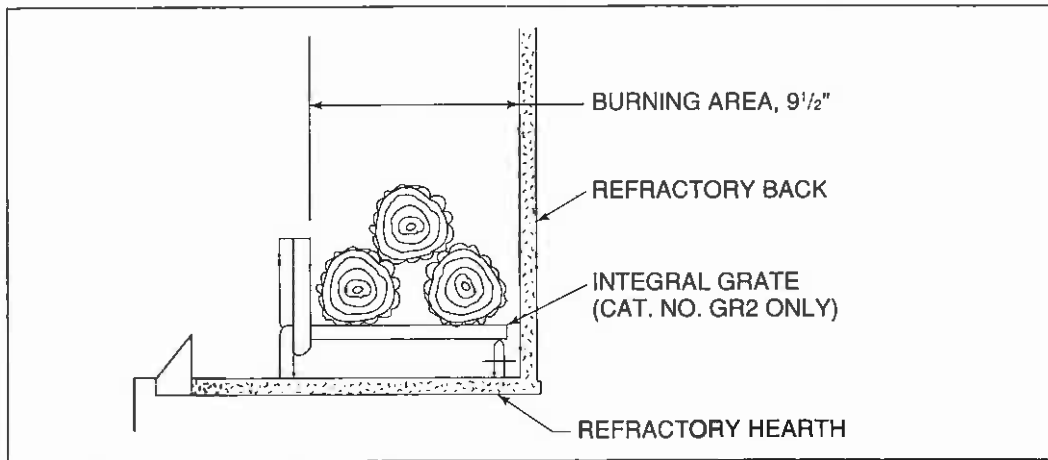

Figure 21
E. **GRATE.** The factory installed Integral Grate must be used to hold the logs from falling out of an open fireplace and to allow air to pass between the burning logs. It is important to keep the fire off the hearth and to allow the ashes to collect beneath the fire, thereby forming a layer of additional heat protection. See Figure 21. Use only Catalog Number GR2 Integral Grate for replacement.
- H. **SETTING THE FIRE.** Check the flue damper to be sure it is fully open. Place crumpled or twisted paper under the Grate. Loosely arrange kindling or small pieces of wood to form a layer above the paper. Place three logs in a rough pyramid as shown in Figure 21, being sure to allow free air space between the logs. Small sticks of wood may be used to separate the logs. Use only solid wood fuel or a listed decorative gas appliance. Do not use a fireplace insert or other products not specified for use with this fireplace. **NOTE:** When heated the first time, the temperature of the fireplace must be raised gradually, to prevent moisture within the refractory from causing cracks, and to allow the binders in the insulation to dissipate.